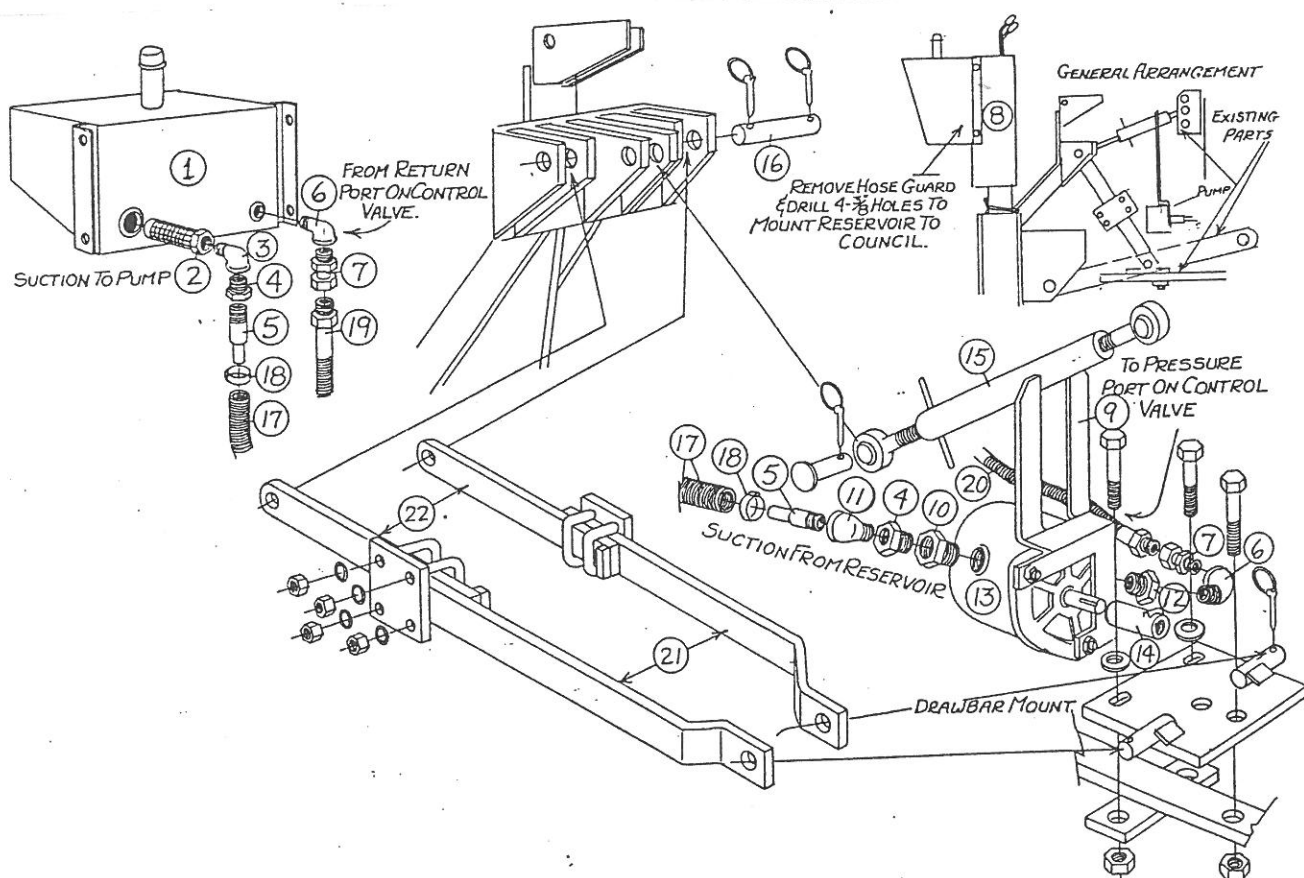

Figure 1
Install the independent hydraulic system onto the backhoe according to the following procedures. Refer to Figure 1 and page 35 of this manual for the identification of the parts. During assembly, use pipe compound on all pipe fittings. None is required on the O-ring fittings.
- F. Attach the O-Ring suction fitting and the 3/4" street ell to the suction port of the pump per illustration in Figure 1.